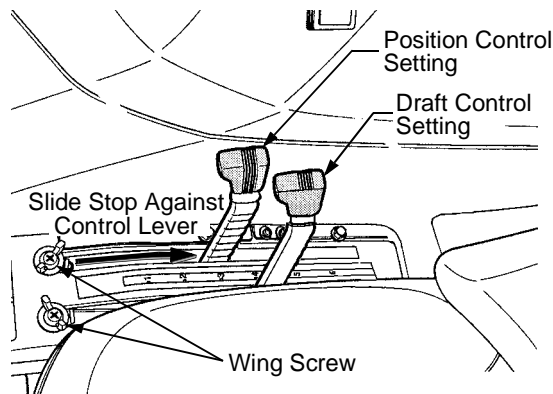

Figure 32
- After determining a desired working position using one, or both, controls, the stop bolts can be used to ensure the levers are returned to their selected positions. Loosen the wing screws and slide the stop(s) against one (or both levers) and re-tighten the wing screws. Once the stop bolt is set, simply move the relevant hydraulic lever forward until it contacts the stop. See Figure 32.